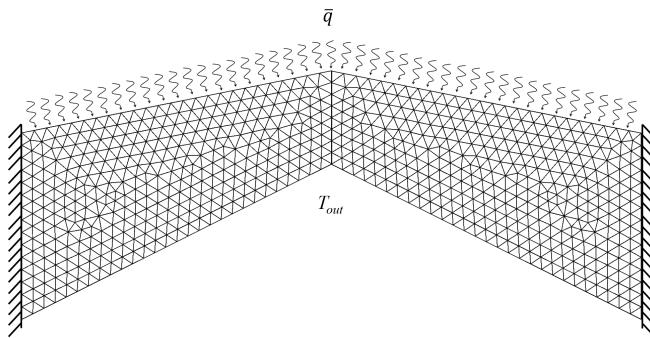

Figure 2: Illustration of the roof construction to be considered in Problem 2
Consider the roof as depicted in Figure 2, in which the temperature distribution is to be computed. Sun radiation leads to a heat supply to the roof along its upper surface. As a result, the amount of inflowing heat per unit surface is \bar{q} [W/m²] (the heat convection along this surface is negligible in comparison to \bar{q}). Furthermore, the left and right boundaries can be considered as insulated, and the surrounding air temperature is T_{out} (to be considered for the convection on the lower surface).
- (b) For the particular problem (Figure 2), **utilise symmetry and make a sketch of the smallest possible simulation domain where you indicate the different boundary parts. Then state the strong form of the current 2D heat flow problem**, which can be solved to determine the temperature distribution inside the roof.